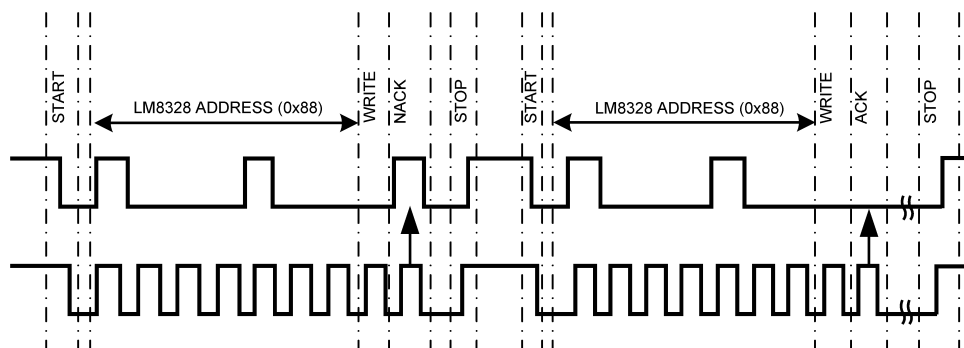

Figure 5. Host Starts Communication While LM8328 is in Sleep Mode
- In the timing diagram shown in Figure 5 the LM8328 resides in sleep mode. Since the LM8328 device can't acknowledge the slave address the host must generate a STOP condition followed by a second START condition.